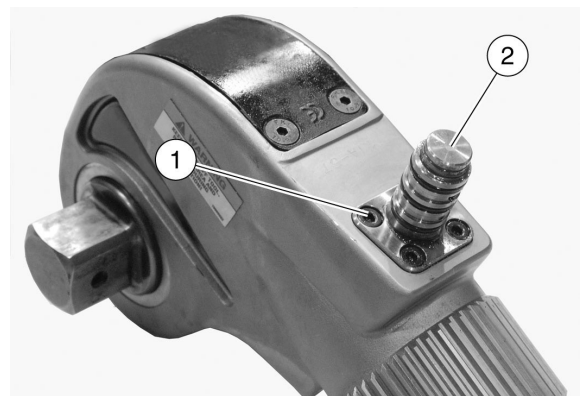

Figure 16. Banjo Circlip Removal
4. See Figure 16. Remove the banjo circlip.